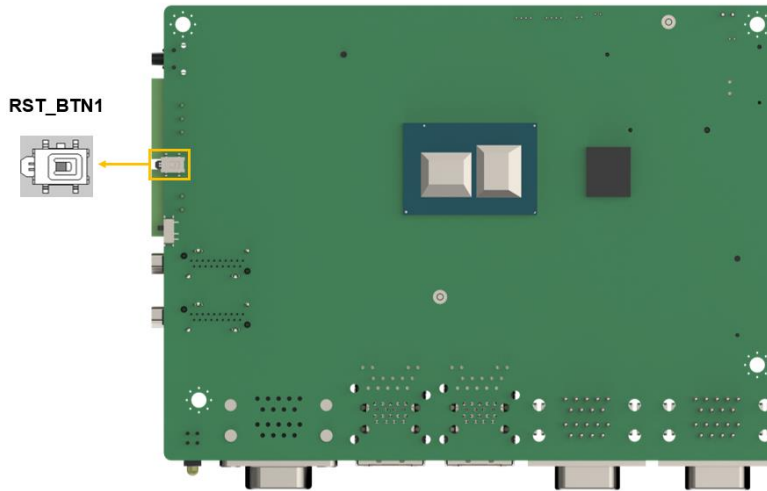

Figure 4-3: Reset Button Connector Location
- CN Location:** See **Figure 4-3**